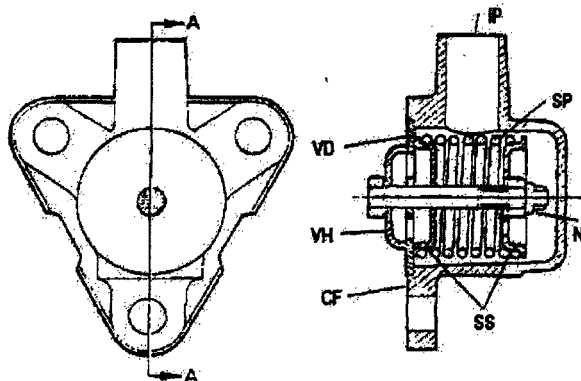

Fig.2.16 Overrun valve
This allows air to pass from the air rail into the inlet pipe (IP) and through the valve into the plenum chamber to optimise the combustible mixture (see fig.2.16).